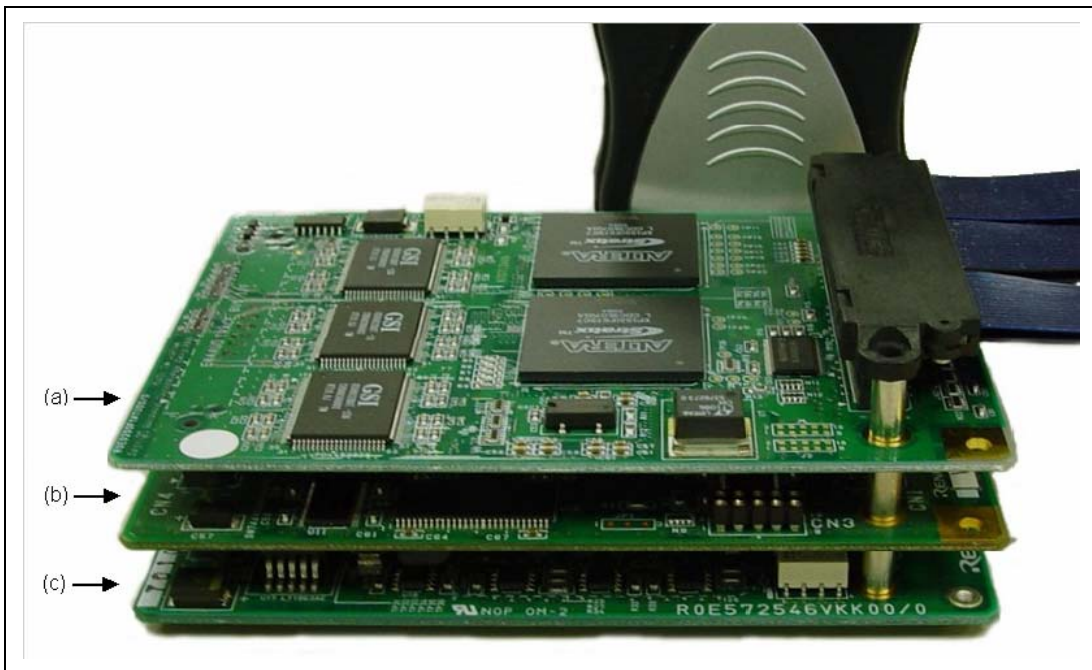

Figure 2.6 Connecting the Expansion AUD Trace Unit, Emulation Memory Unit, and EV-chip Unit
- When the expansion AUD trace unit is used with the emulation memory unit and EV-chip unit, as shown in figure 2.6, connect them in the positions of (a), (b), and (c) for the expansion AUD trace unit, emulation memory unit, and EV-chip unit, respectively.